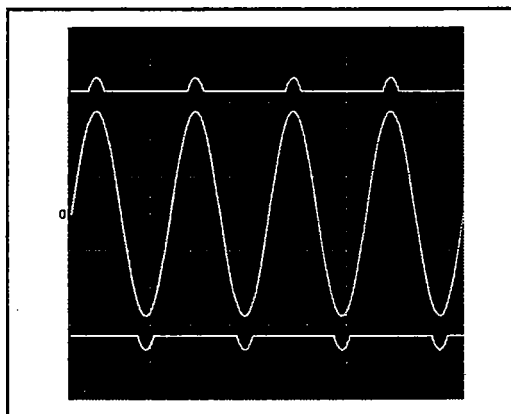
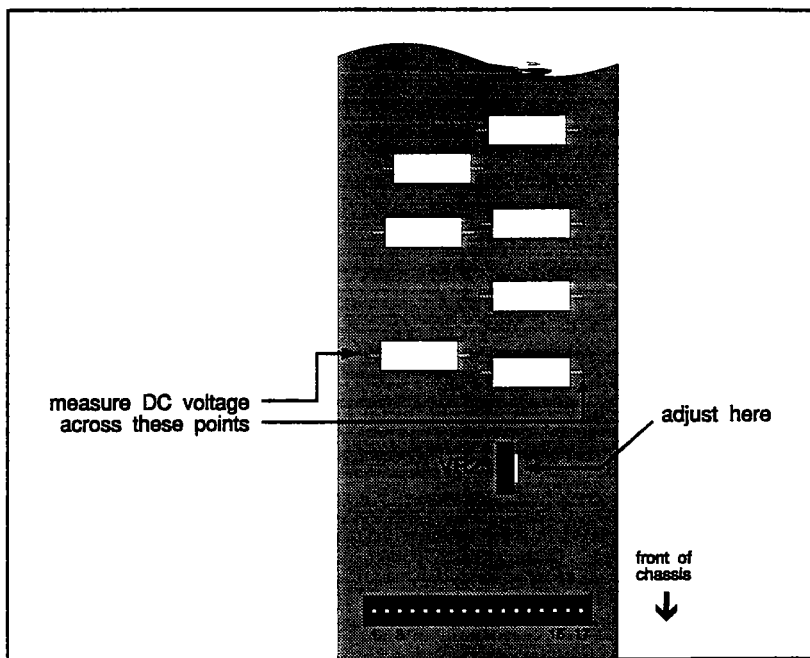

Figure 4-3. Class H
Figure 4-4. Bias adjust
Channel A on the oscilloscope should show an increase in negative (-) or positive (+) DC voltage (depending on which reference point you are connected to). For class AB models 3301 and 4601 you should see that the DC rails will remain horizontal and flat (Figure 4-3). For the class H models 4801, 6001, and 7001 you should see the rails modulating in sequence with the respective positive or negative peak of the output sine wave (Figure 4-4). If everything is ok, turn the Variac off, wait a full minute and remove the Heatsink Board Test Module.
As you near full line voltage, the relays should click on, turning the amplifier on and passing the 2 kHz sine wave on to oscilloscope Channel B. On models 4801, 6001, and 7001, Channel A on the oscilloscope should now show the positive (+) or negative (-) high rails turning on synchronously with the signal (depending on which reference point you are connected to). This is Class H operation (Figure 4-4).
On models 3301 and 4601, channel A on the oscilloscope should now show the positive (+) or negative (-) DC rails (depending on which reference point you are connected to) displayed horizontally across the screen. This is class AB operation (figure 4-3).
- 10 Connect a DC voltmeter across the .33 ohm 5-watt emitter resistors (R112 and R124) closest to the front end of the heatsink board (Figure 4-4).